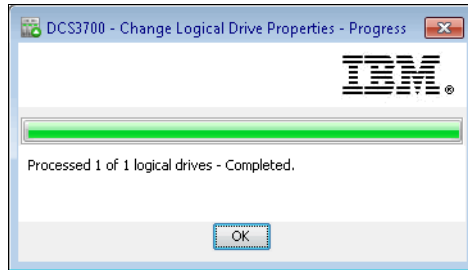

Figure 8-44 Change Modification priority - Completed
4. You then see the completion window, as shown in Figure 8-44.